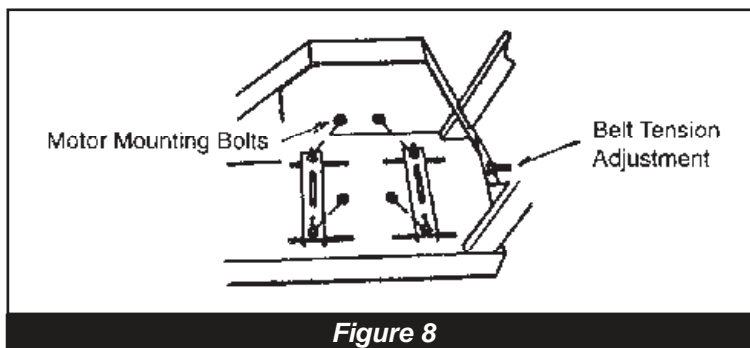

Figure 8
- To tension belts, loosen motor mounting hardware slightly. Either push motor towards the rear of the saw (handle bar side) until the belts are tight or on the models with a belt tensioning adjustment bolt, use bolt to adjust the motor until the belts are tight. Re-torque the engine mounting hardware **(see Figure 8 below)**.